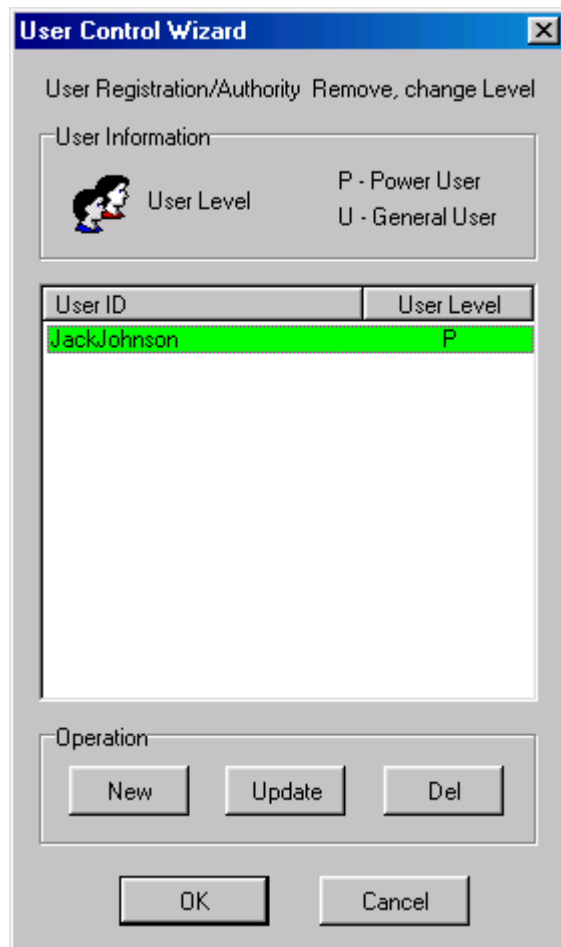

Figure 2.2b
- 2) Select the NEW button (Figure 2.2b). The USER REGISTRATION window should open.
- 2) Click on the user you wish to edit and press the UPDATE button (Figure 2.2b).